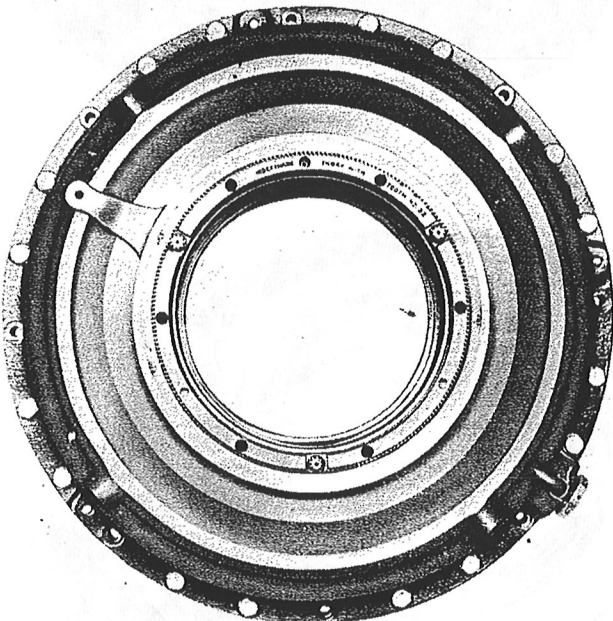

Figure 155—Indexing Control Lever
(18) Install the control lever, indexing tooth No. 32 at the index mark on the adapter ring. (See figure 155.)